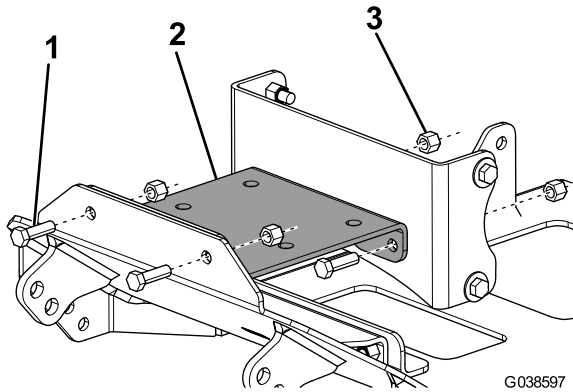

**Figure 5**
7. Secure the front winch bracket to the vehicle bumper using 2 bolts (5/16 inch) and 2 locknuts (5/16 inch) as shown in Figure 5.